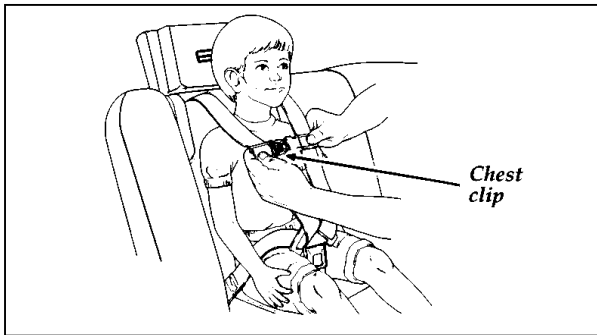

Figure 8: Securing the chest clip
7. Double check that the retractor is in the automatic locking mode. Try to pull more belt out of the retractor. If you cannot, the belt is in the automatic locking mode. See Figure 8.
9. Fasten both halves of the chest clip below the child's shoulders and adjust it to comfortably hold the shoulder belts in place on the child's chest. The purpose of this clip is to position the shoulder belts correctly on the child's shoulders. The clip can be easily pulled apart, and is designed to pull apart during a collision. The clip helps keep the shoulder belts on the shoulders of a sleeping or squirming child. Refer to Figure 8.
1. Squeeze the tabs on the top and bottom of the chest clip and pull the halves apart to open the chest clip. Refer to Figure 8.